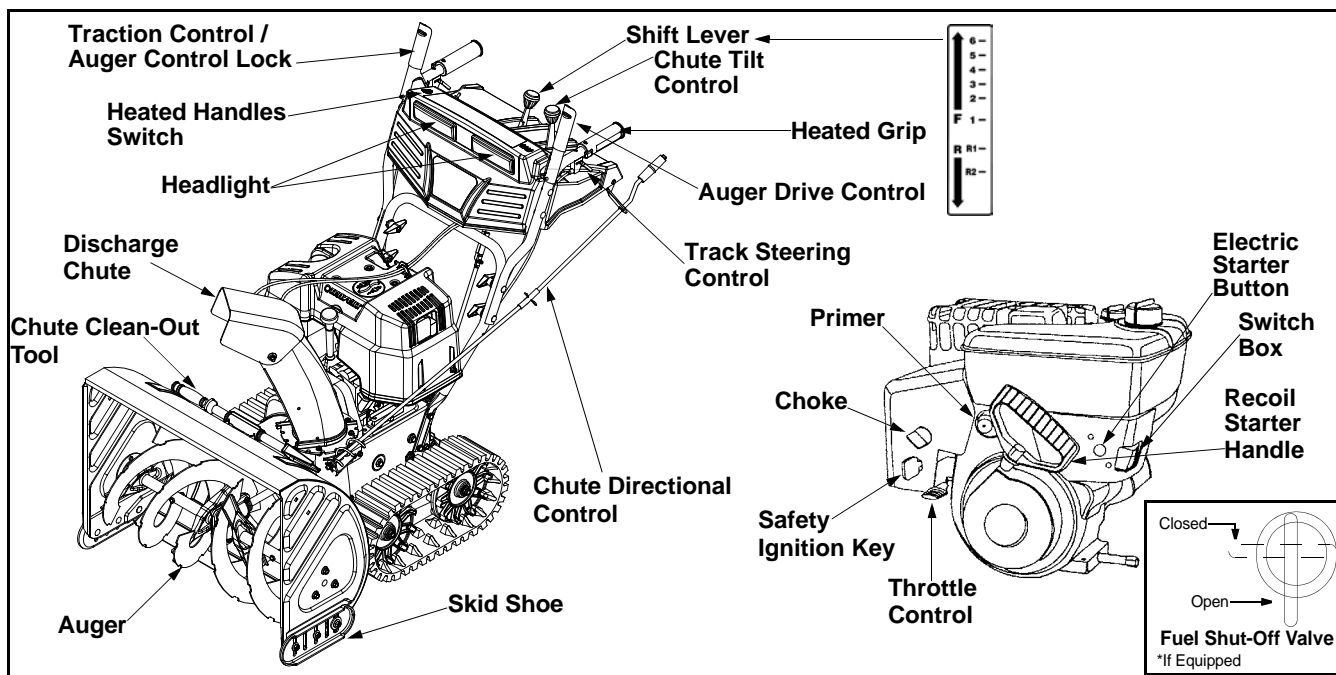

**Figure 4**
- Unwrap the headlight wire which is attached to the headlight, beneath the handle panel. Wind the headlight wire around the lower right handle until excess slack is removed. See Figure 4.